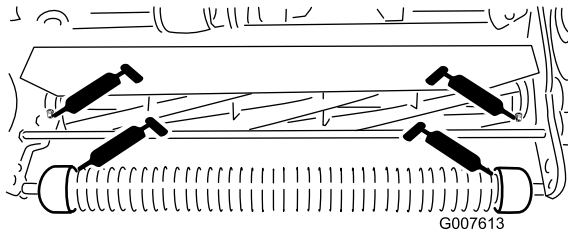

Figure 16
- 2 on the front roller (Figure 16)
- 2 on the reel bearings (Figure 16)